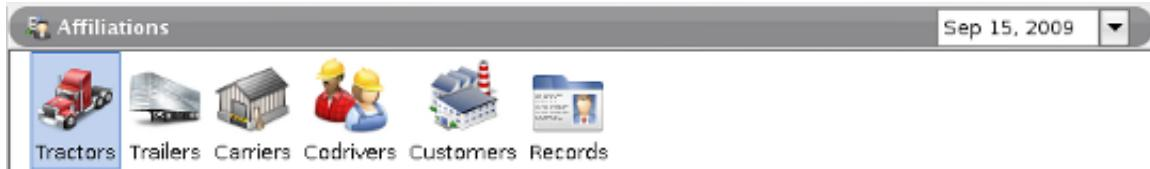

Figure 5.2. Tractors Navigation Item
2. Select the "Tractors" affiliations navigation item see Figure 5.2, "Tractors Navigation Item".